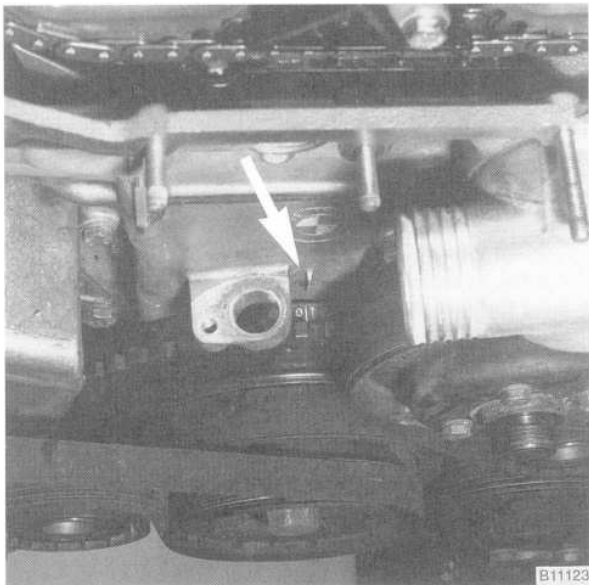

Fig. 9. 0/T (0°TDC) mark on vibration damper aligned with boss on timing chain cover (arrow).
15. Set the engine to TDC by aligning the "0/T" mark (0°TDC) on the front vibration damper with the cast boss on the lower timing chain cover. See Fig. 9.